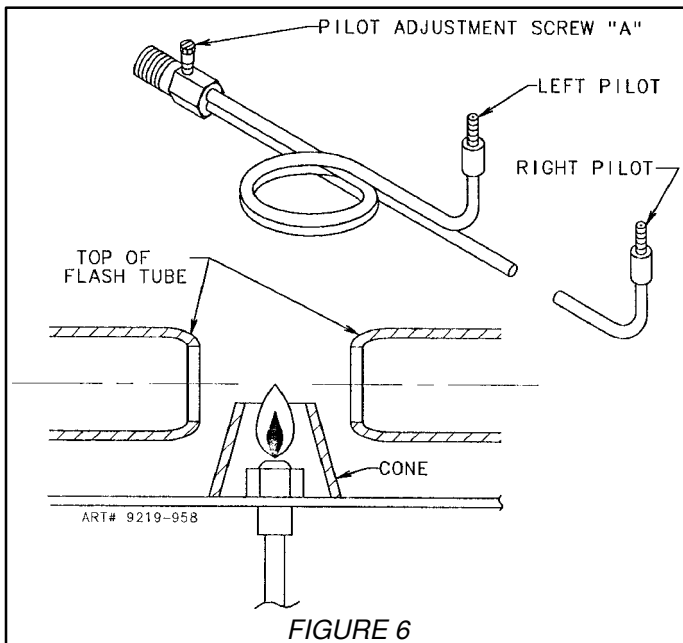

FIGURE 6
(See figure 6)
Purge all air from supply system by turning on one top burner valve. Then turn off valve and adjust top pilot flame using adjusting screw "A" (figure 6) so that flame is even with top of flash tube. To light the burner, push and turn top burner knob to the lite position. **NOTE:** Some models have **ONLY** one pilot adjustment at the manifold pipe.
- c. Models with standing pilots: Adjust burner pilots. (See figure 6). Turn the selector switch on the face of the thermostat to the LP position.
- c. Models with standing pilots: Adjust top burner pilots. (See figure 6). Turn the selector switch on the face of the thermostat to the Nat. position.